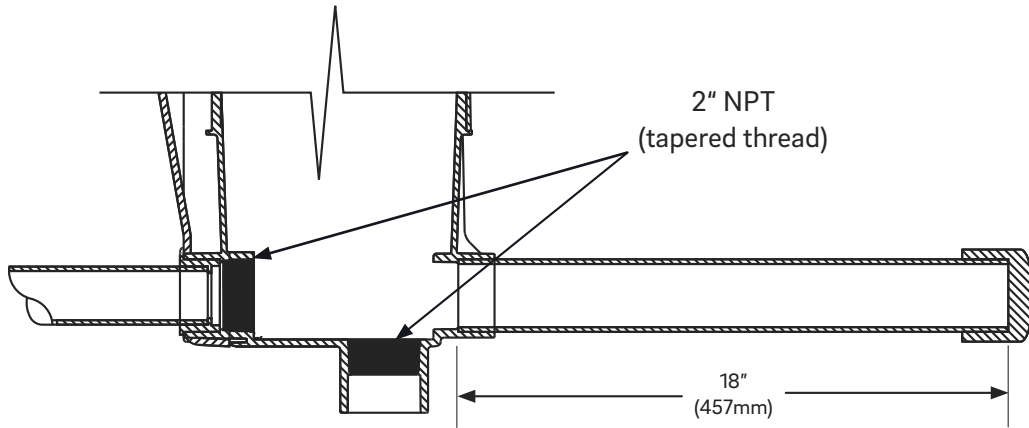
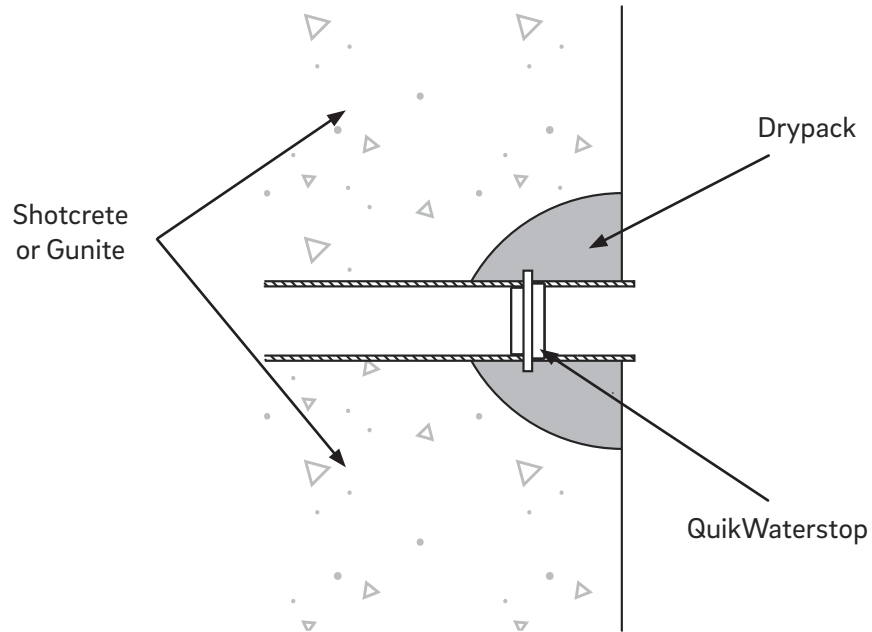

Figure 3
Figure 8
1. Glue an 18 inch length of 2 inch schedule 40 PVC pipe into the discharge port of the QuikSkim Ultra located at the lower front, below the mouth of the skimmer. Cap the end to prevent concrete from entering during the shotcrete or gunite process (Figure 3).
5. Once the shotcrete is complete, cut the capped pipe that was installed on the venturi discharge line (Figure 3) so that it will be flush with the finished surface. Glue the pipe and slide the QuikWaterstop (Figure 9c) over the pipe, allowing enough room to dry-pack behind it to ensure a waterproof seal (Figure 8).